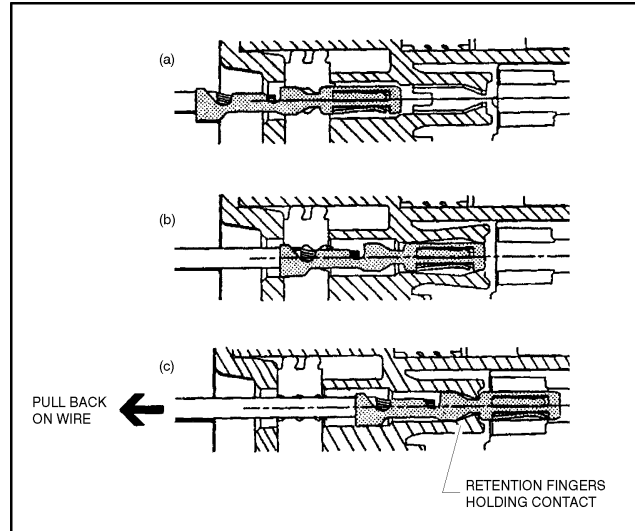

Figure 3-7. Connector Assembly (2 of 4)
1. To insert a contact, push it straight into the appropriate circuit cavity as far as it will go (See Figure 3-7. Connector Assembly (2 of 4)).
2. Pull back on the contact wire with a force of 1 or 2 lb to be sure the retention fingers are holding the contact (See Figure 3-7. Connector Assembly (2 of 4)).